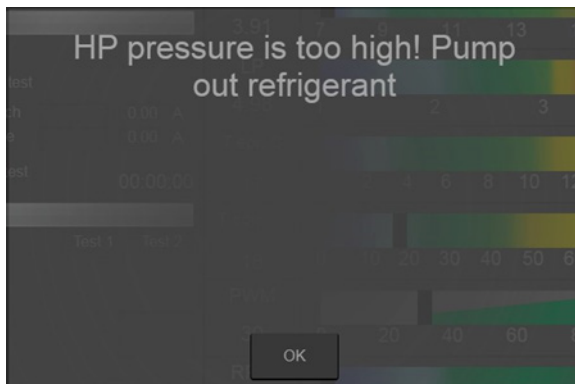

Figure 33. Message «PH pressure is too low!»
- «HP pressure is too low!» (Fig.33). This message appears when the bench operates in auto test mode and the operator didn't turn the valve off prior to launching "Productivity Test" or "Noise Test".